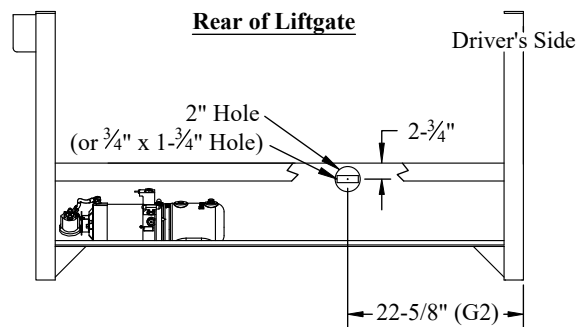

Figure 9: Spare tire access.
2. **Remove** and **Discard** the black plastic plug(s) from the mainframe at the location shown or **Drill** a hole as indicated if one does not exist (Figure 9).